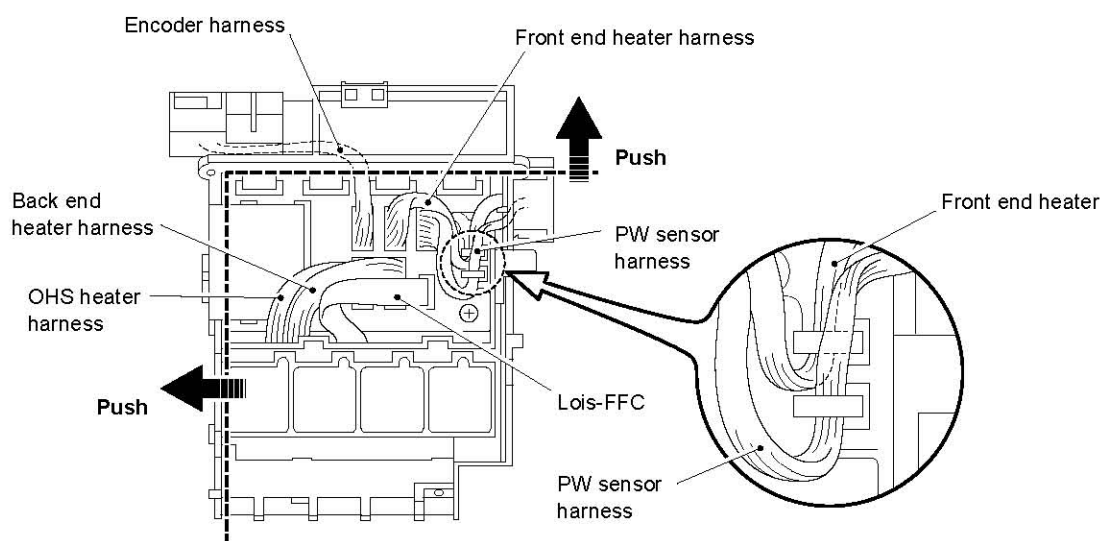

Fig. 4.72
- (5) Fit the CR PCB ASSY to the connector position on the Head ASSY. Push the CR PCB ASSY towards the upper left hand corner as shown in fig. 4.72.
- (6) At this time, check that the front end heater harness and the PW sensor harness are secured by the hooks on the Head ASSY as shown in the enlarged figure.
- (7) Reassemble the CR PCB cover onto the Carriage ASSY.